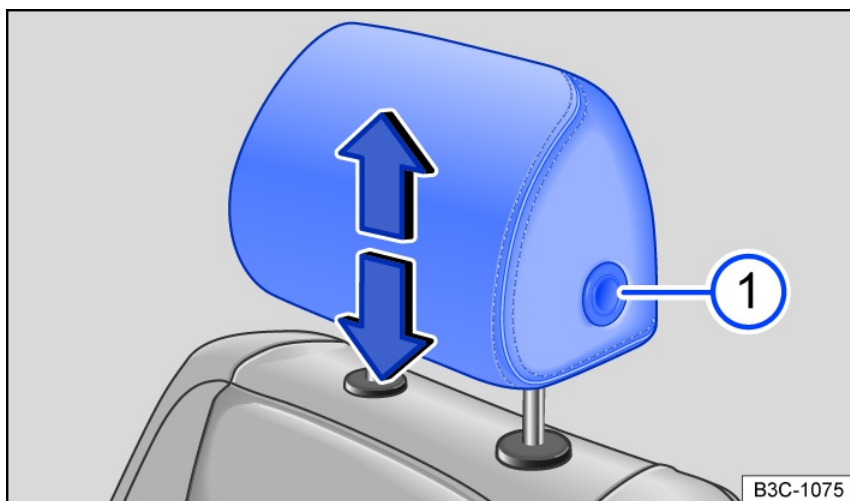
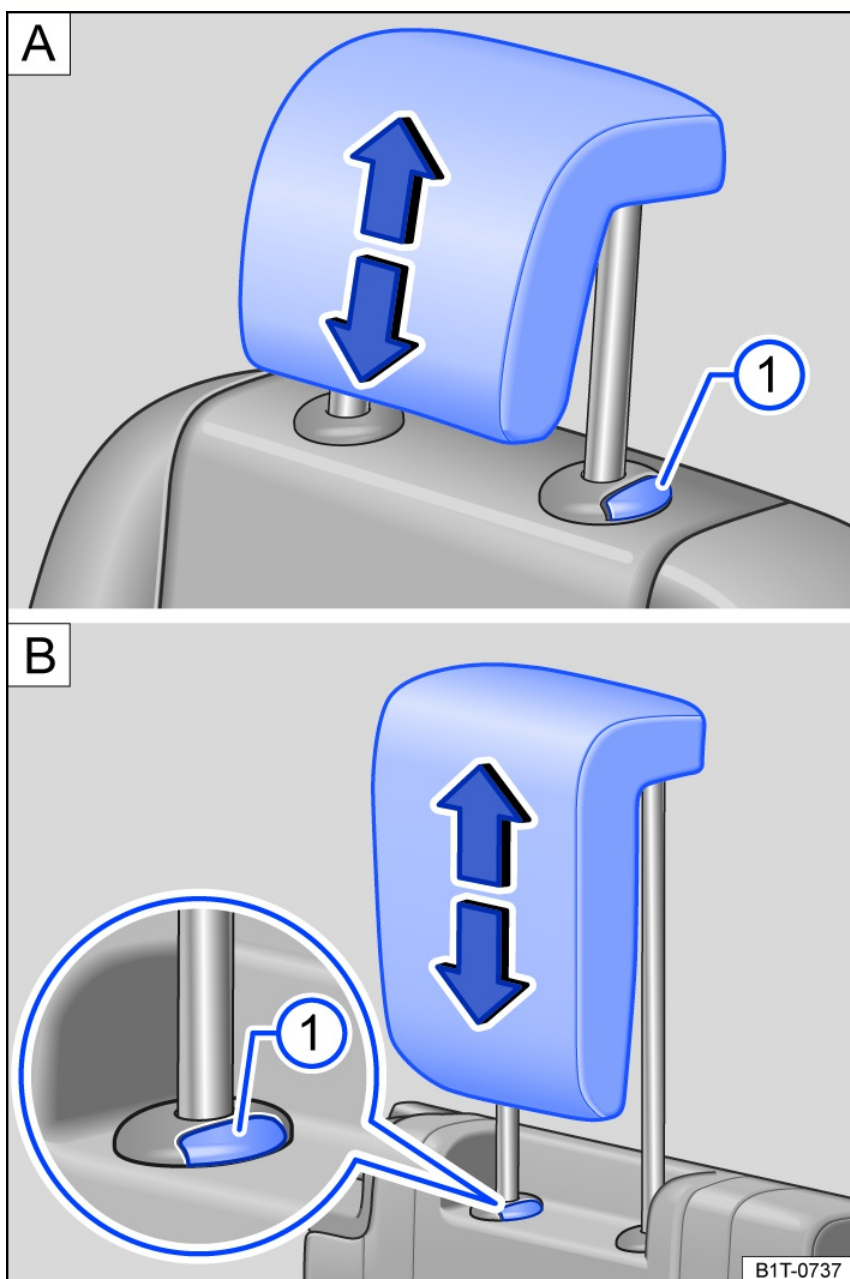

Fig. 86 Adjusting the front head restraint.
Fig. 87 Adjusting the rear head restraints: [A] second row seat, [B] third row seat.
- Slide the head restraint upward or downward in the direction of the arrow and while pressing the fig. 86 ① or fig. 87 ① button.
- Push the head restraint upward in the direction of the arrow or slide it downward while pressing the fig. 87 button.